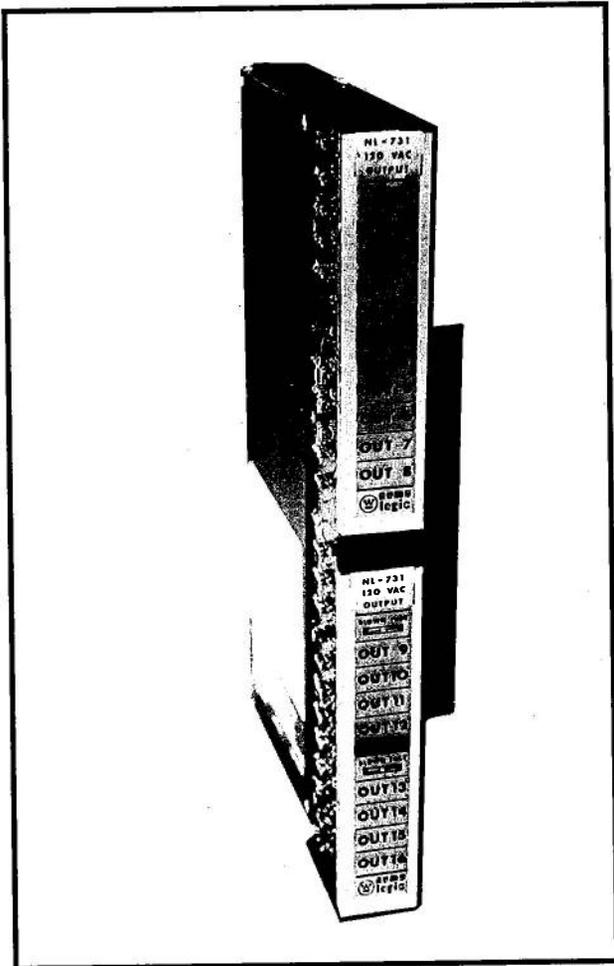
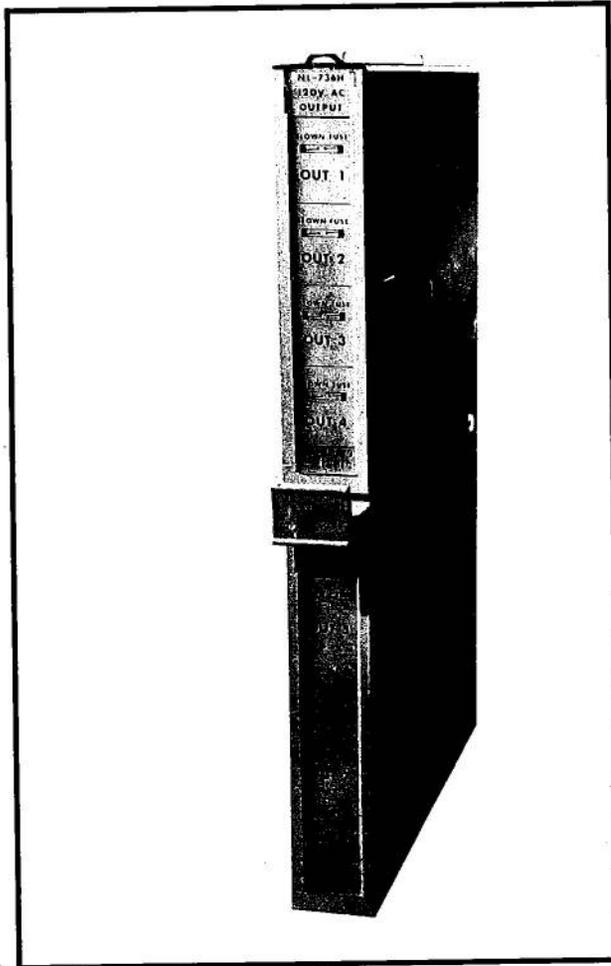
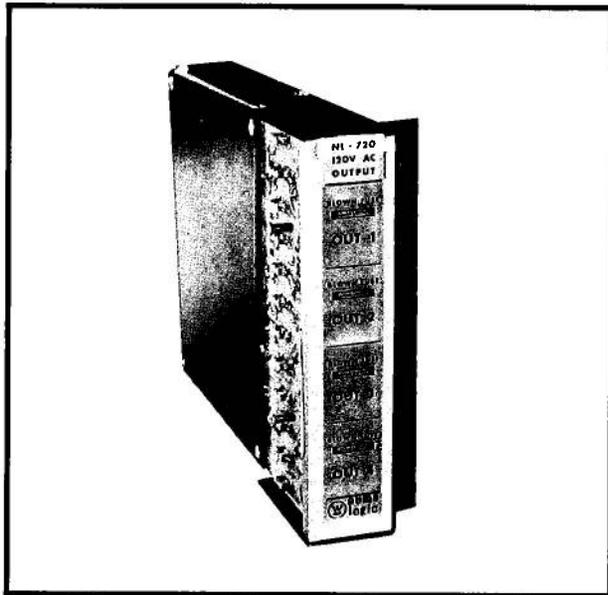

Figure 2-8. Typical 16-Point Discrete Output Module
Figure 2-9. Typical 8-Point Discrete Output Module
Figure 2-10. Typical 4-Point Discrete Output Module
**Discrete Output Modules:** Each output circuit on a discrete output module converts one of the processor's logic output signals into individual output voltage and current levels required by output devices. Typically, output signals are used to drive motor starters, solenoids, pilot lights, etc. There are three basic discrete output module types: a 16-point shown in Figure 2-8, an 8-point isolated shown in Figure 2-9, and an 4-point isolated shown in Figure 2-10. Like the input modules, each output module type has a faceplate with a translucent lens and corresponding LED. These output module lenses are also available as a standard lens or, optionally, as a blank or custom lens. With the exception of the 5 Vdc TTL compatible module, all discrete output modules have individually fused circuits. Also, with the exception of the 48 Vac module, all Vac discrete output modules have blown-fuse indicators. Discrete output modules are available for a variety of output signals, which are detailed in Table 2-3. Refer to the I/O manual for specifications and a description of each discrete output module type.